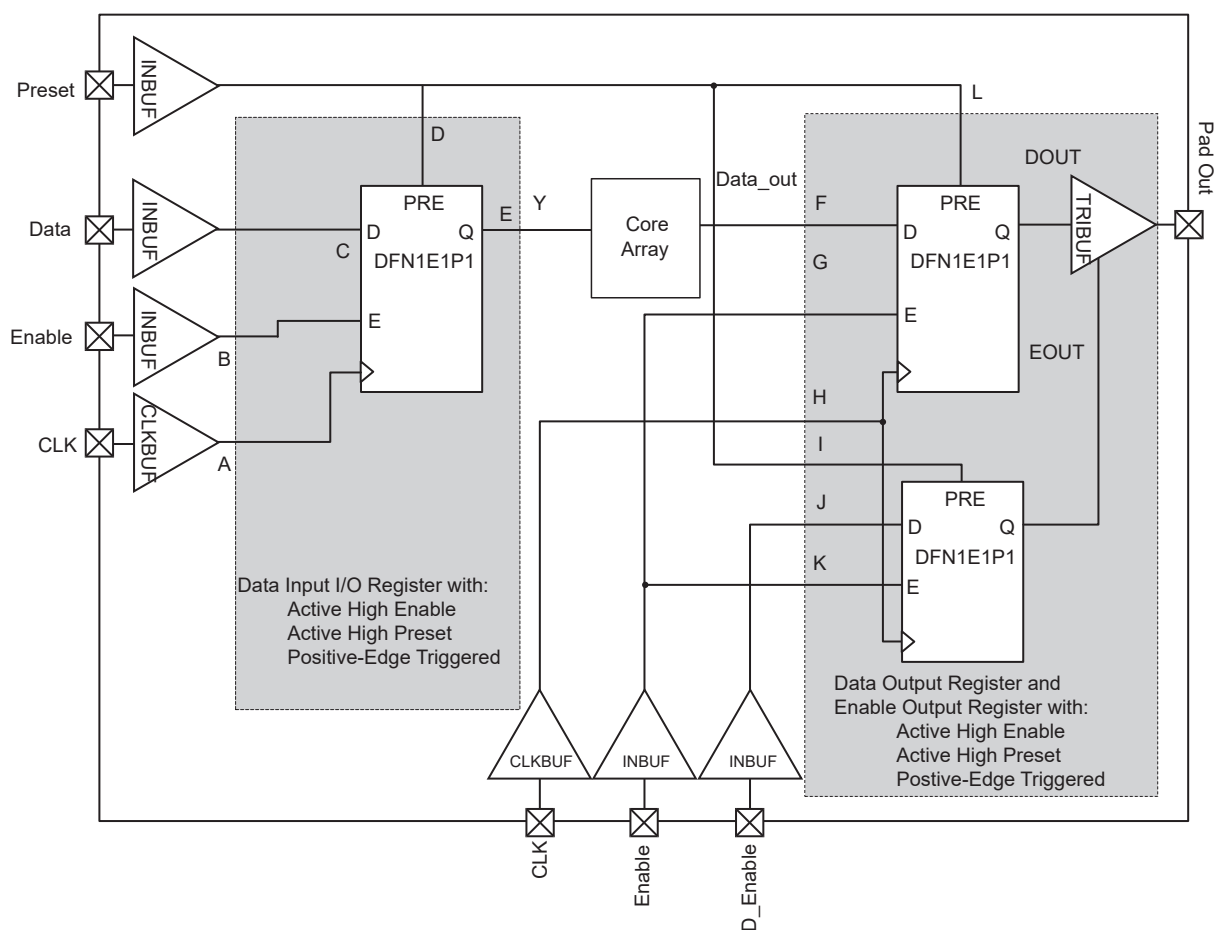

Figure 2-25 • Timing Model of Registered I/O Buffers with Synchronous Enable and Asynchronous Preset
*Note:* \*See Figure 2-25 on page 2-55 for more information.